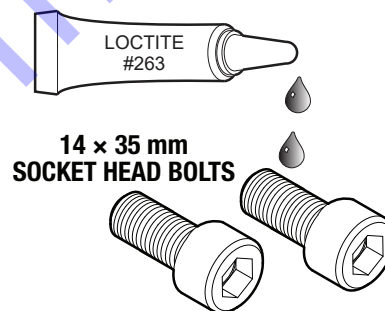

Figure 29. Applying Loctite® 263™ (Front Bumper Bolts)
- Apply Loctite® 263™ to the male threads on the two 14 x 35 mm socket head bolts that were removed earlier from the front bumper (Figure 29).